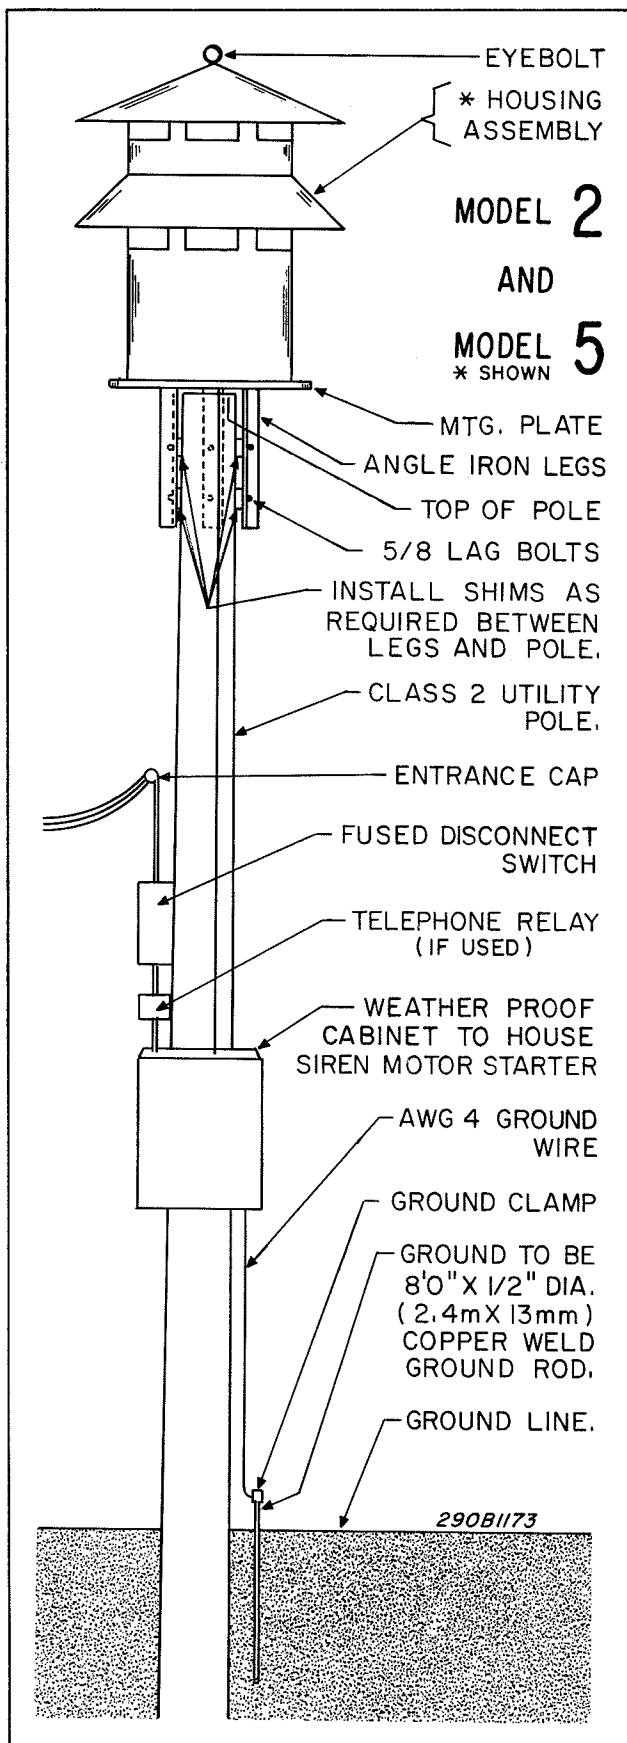

Figure 3-6. Typical Model 5 or Model 2 Pole-Mounted Installation.
(k) Install the Model RC2 or RC2W Motor Starter and a fused disconnect switch in a location on the pole that is readily accessible to service personnel, but discourages vandalism. The RC2 must be installed in a vertical position for proper operation. Install the electrical devices following NEC recommendations and local electrical codes. A suggested installation configuration is shown in figure 3-6.
3. Install conduit between the disconnect switch and the electrical power source. If the siren is installed on a utility pole, add an entrance cap to the end of the conduit, as shown in figure 3-6.